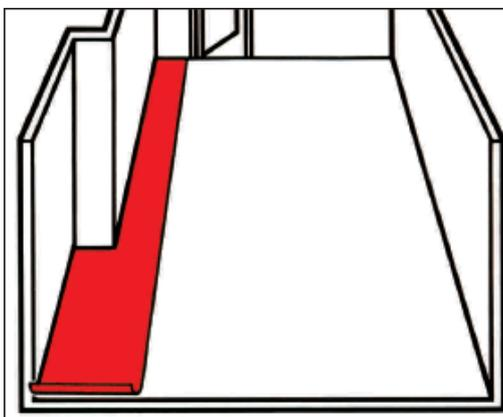

Fig 11.
- The sheeting is now cut and fitted against the sidewall and one end wall. **Refer to Fig 11.**